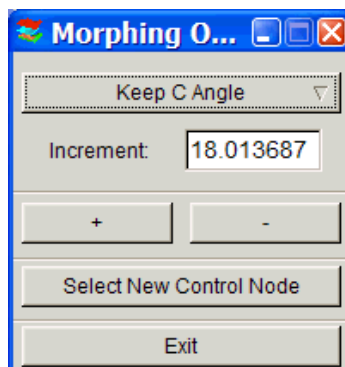

Figure 6.4.6 Morphing Dialog Window
This menu allows the user to morph a region of selected elements in a mesh. There are four types of morphing as shown in Figure 6.4.6. All elements within the region must be selected without excluding any elements from the region. The operation of these functions is similar to the SURFACE MORPHING functions.
- After the proper node is selected, the program displays a dialog window as shown in Figure 6.4.6.